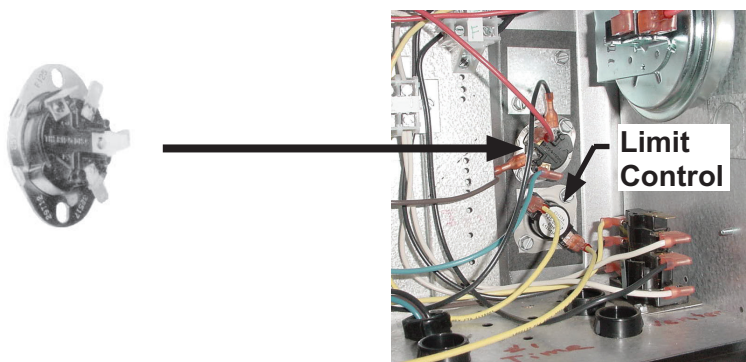

Figure 1. Obsolete Fan Control
2. Remove control access panel, open electrical box cover (if provided), and locate existing fan control (see Figure 1).
4. If unit is equipped with junction box heat shield (see Figure 2), disconnect limit control (see Figure 1) wires. Remove and discard heat shield and reconnect limit control wires.
5. Remove and save two screws that secure existing fan control (see Figure 1). Remove and discard control.